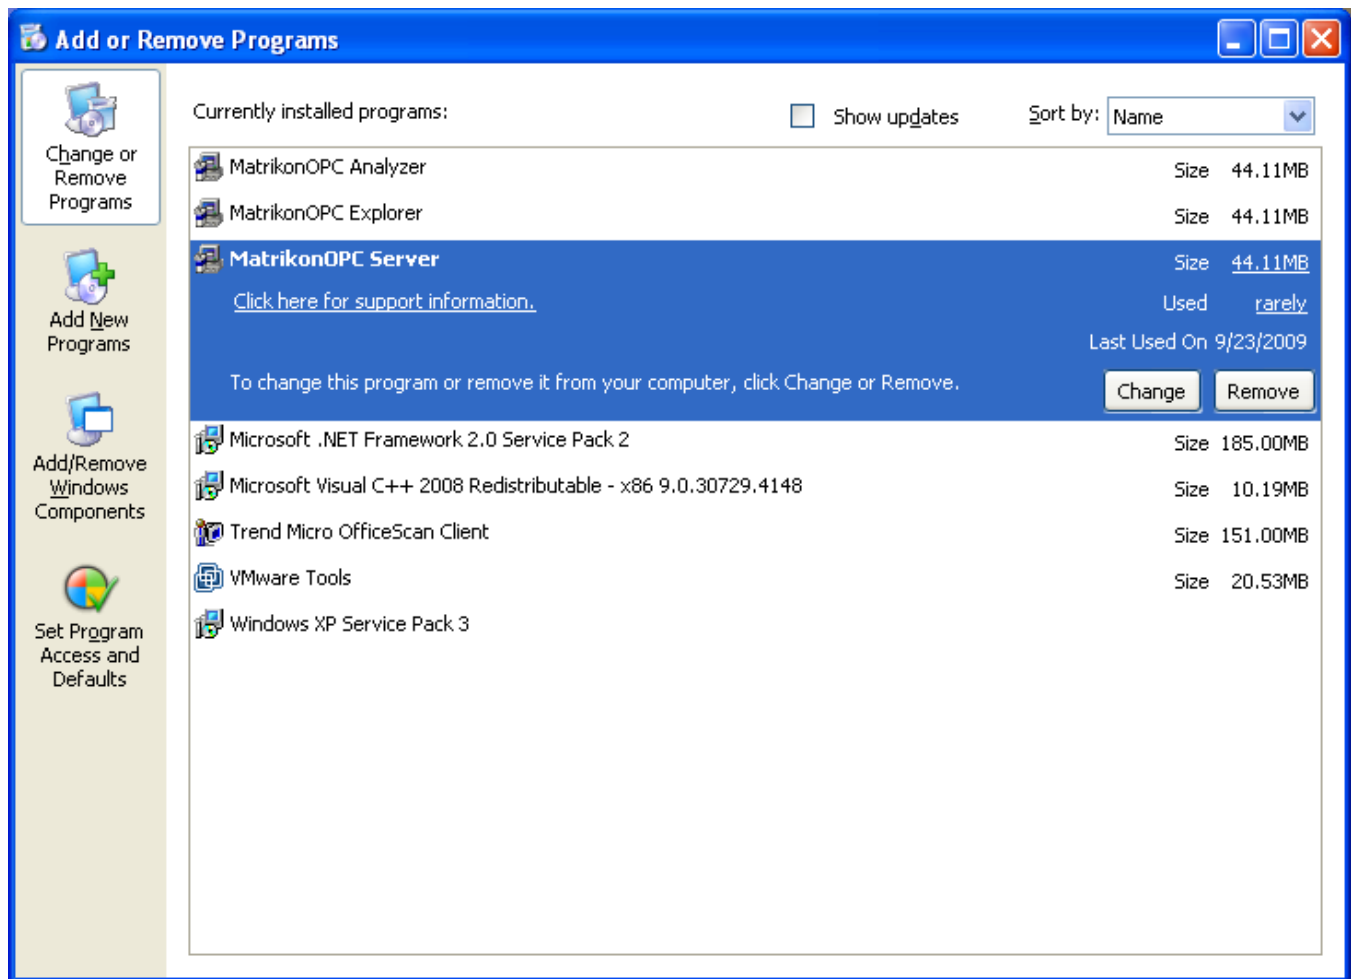

Figure 77 – Add or Remove Programs
3. The **Add or Remove Programs** window (Figure 77) is displayed.